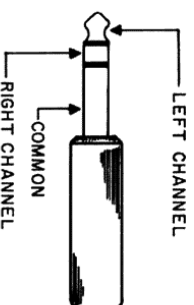

Figure 10. Stereo Phone Plug
**DUBBING OUT** At all times this output is internally connected in parallel with the **TAPE RECORDING OUTPUT** jacks on the rear panel. Thus any signals available at the jacks on the rear panel are simultaneously available at the front panel. You can connect the recording inputs of an external recorder to this jack, using a standard 3-conductor phone plug. Plugs of this type have an insulated tip, and insulated ring, and a sleeve which is generally used for common return or ground. The tip of the plug receives the left channel of a program, whereas the ring receives the right channel. Refer to Figure 10.
**STEREOPHONES** This jack accepts the standard 3-conductor phone plug used on standard stereo headphones. (See Figure 10) It is fed from the power amplifier section through isolation resistors, and gives optimum results with popular low impedance